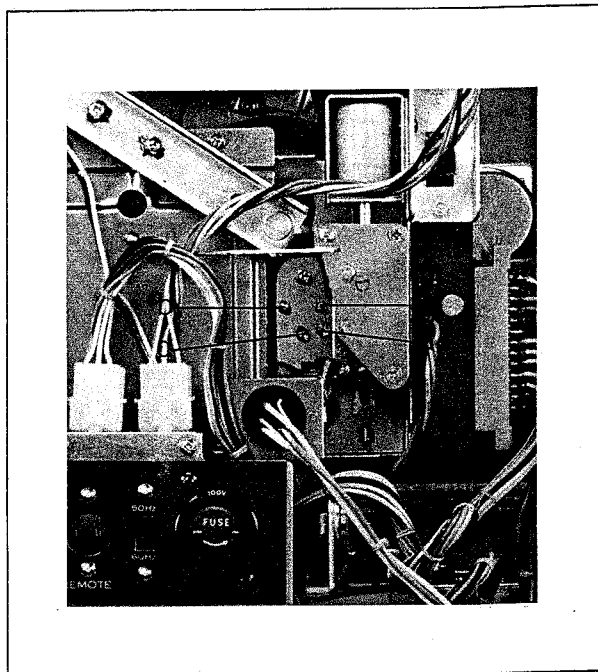

Fig. 6
(B) Cartridge (See Figs. 6 and 7)